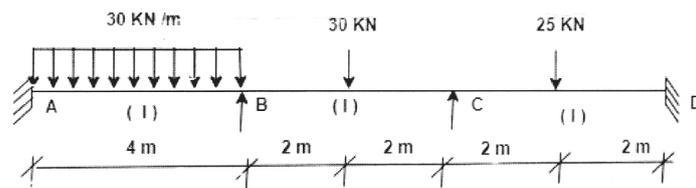

Figure 4
- Q3) a) Analyze the beam shown in figure 4 by Moment Distribution Method. Draw BMD. [10]